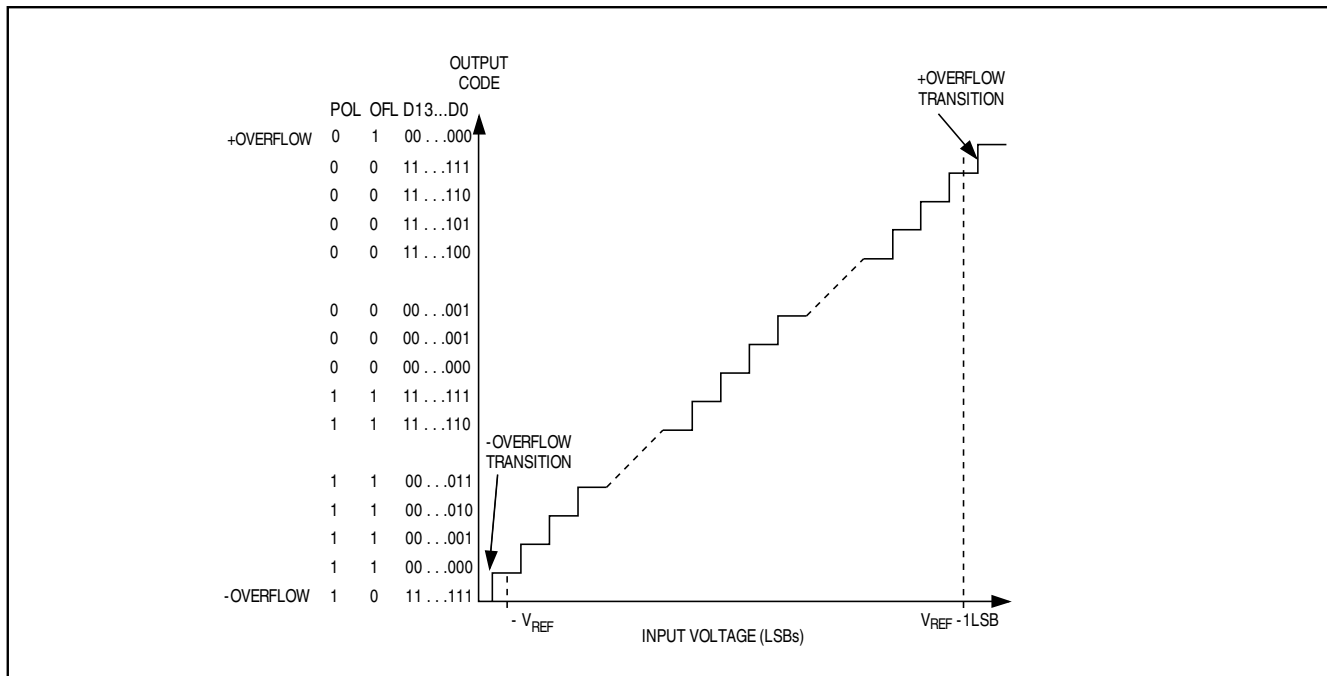
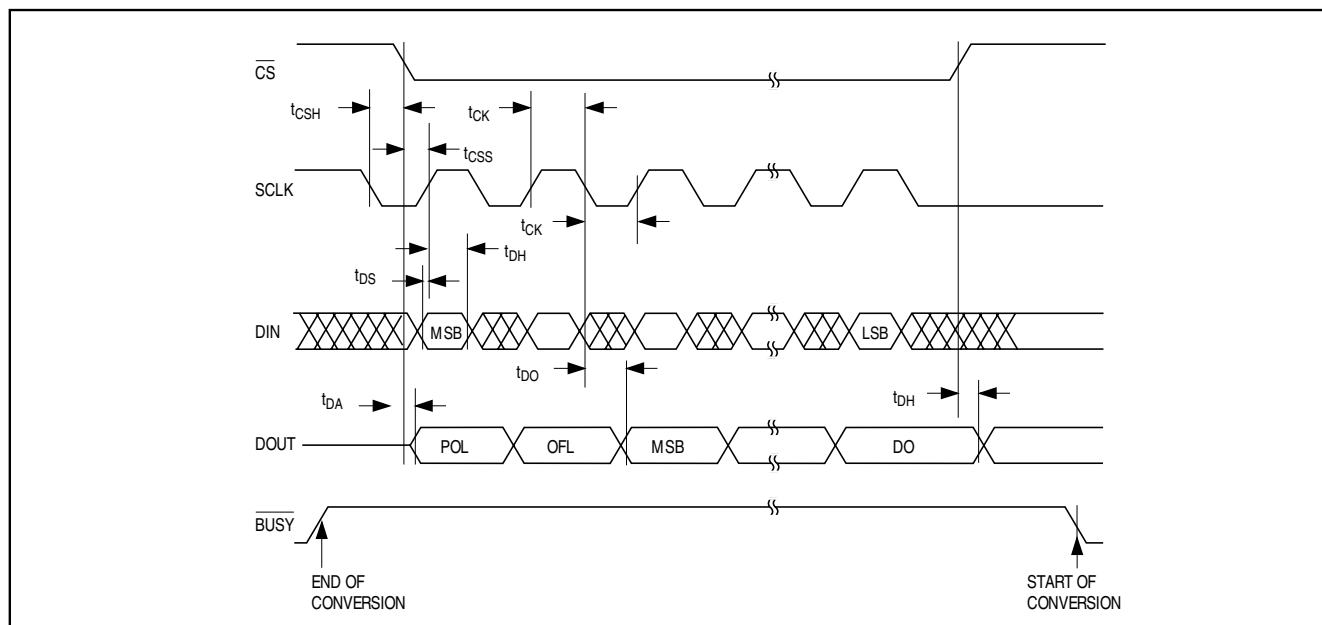

Figure 4. Differential Transfer Function
Figure 6. Detailed Serial-Interface Timing
The output data from the MAX110/MAX111 is arranged in twos-complement format (Figures 4, 5). The sign bit (POL) is shifted out first, followed by the overrange bit (OR), and the 14 data bits (MSB first) (see Figure 6). The MAX110 operates from $\pm 5V$ power supplies and converts low-frequency analog signals in the $\pm 3V$ range when using the maximum reference voltage of $V_{REF} = 3V$ ($V_{REF} = V_{REF+} - V_{REF-}$). Within the $\pm 3V$ input range, greater accuracy is obtained within $\pm 2.5V$ (see *Electrical Characteristics* for details). Note that a negative input voltage is defined as $V_{IN-} > V_{IN+}$. For the MAX110, the absolute voltage at any analog input pin must remain within the $(V_{SS} + 2.25V)$ to $(V_{DD} - 2.25V)$ range.
Data is transferred into and out of the serial I/O shift register by pulling $\overline{CS}$ low and applying a serial clock at SCLK. This fully static shift register allows SCLK to range from DC to 2MHz. Output data from the ADC is clocked out on SCLK's falling edge and should be read on SCLK's rising edge. Input data to the ADC at DIN is clocked in on SCLK's rising edge. A new conversion begins when $\overline{CS}$ returns high, provided the MSB in the input control word (NO-OP) is a 1 (see *Using the MAX110/MAX111 with MICROWIRE, SPI, and QSPI Serial Interfaces*). Figure 6 shows the detailed serial-interface timing diagram.